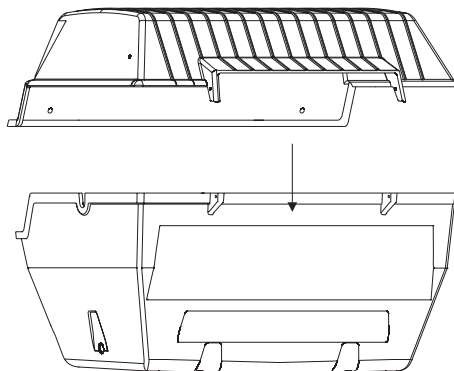

Figure 18
1. Secure grill body top to grill body bottom by replacing the two hinge pins and clips. See **Figures 18 and 19**.